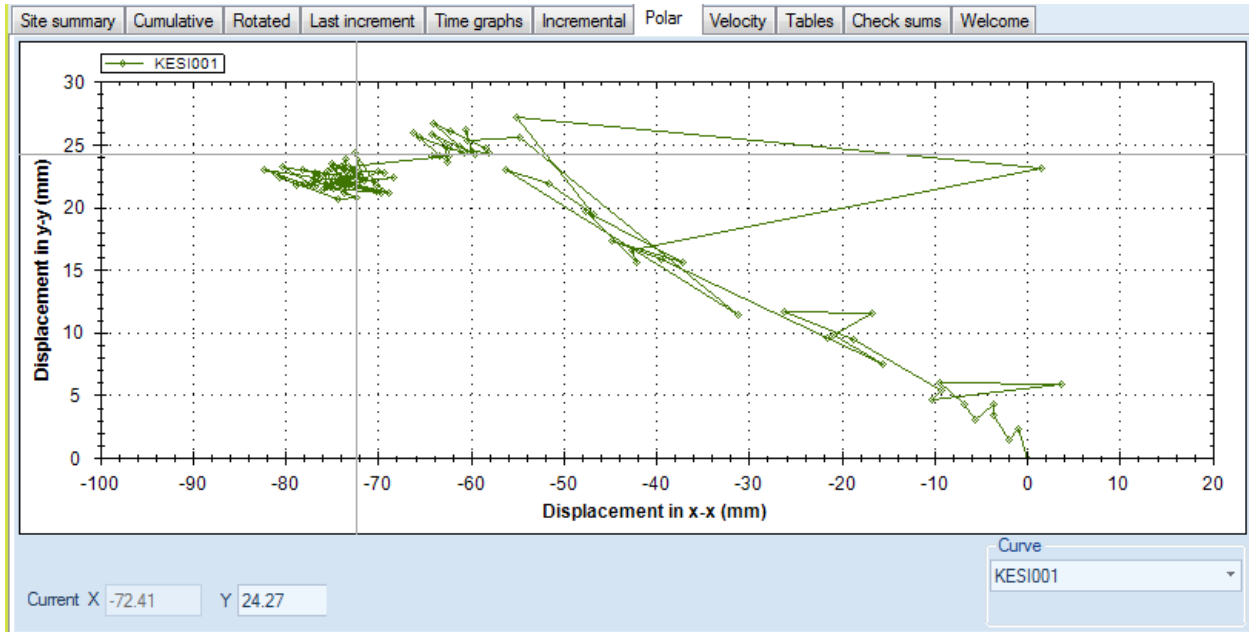

Figure 7.10: Polar displacement graph for current inclinometer (and selected elevation zone)
- **Polar tab:** This graph plots the evolution of the maximum polar displacement in x -y coordinates (Fig. 7.10). When more zones are available, the program offers the ability to choose which elevation zone to visualize.